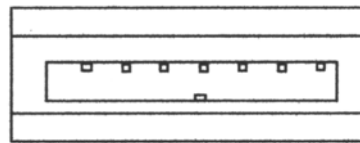

Figure 2B: Newer
- *The newer eSATA connectors have a rectangular I-shaped opening, see Figure 2B*